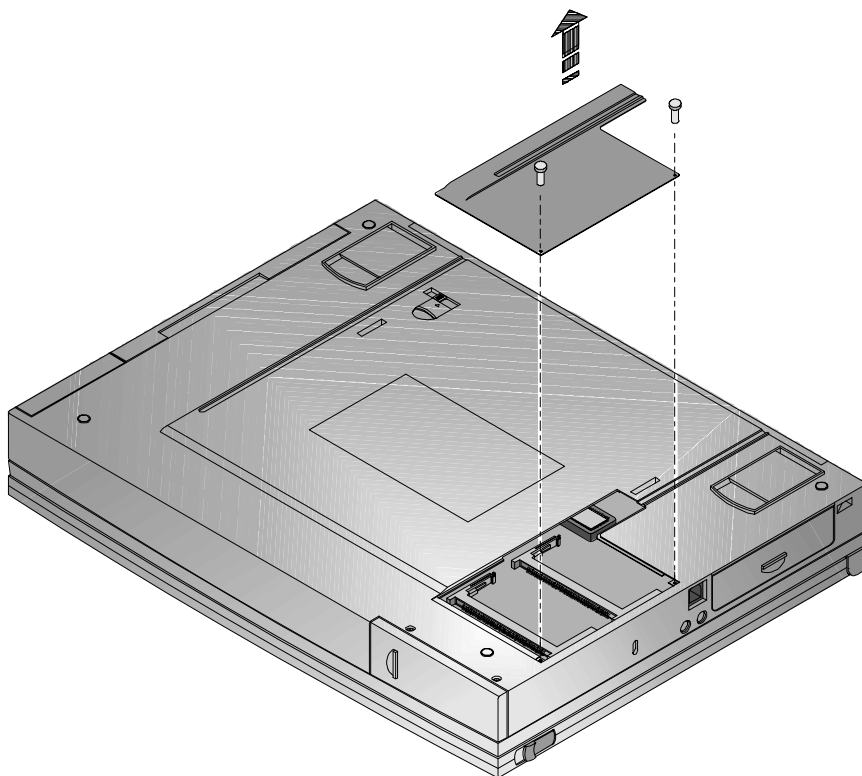
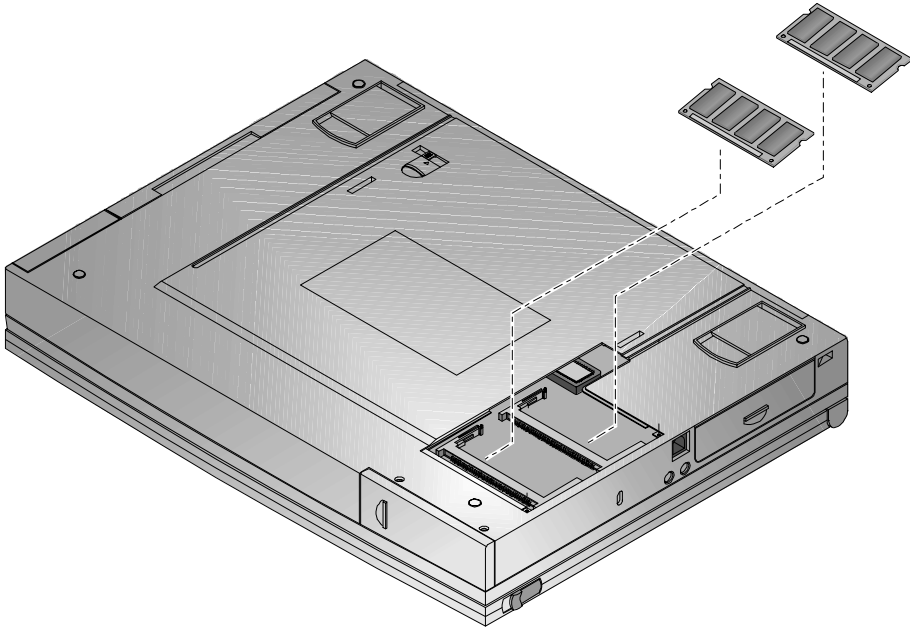

Figure 6-1: Removing MemoriDoor
Figure 6-2: Inserting DIMMs
You may find it helpful to refer to figure 6-1 and figure 6-2 while reading the following directions.
2. The memory door is located on the underside of the notebook. It is secured to the notebook by two Philips head screws. Remove the screws and the memory door to reveal the DIMM slots. (Figure 6-1)
3. Insert the DIMM into the memory slot at a 45° angle. (Figure 6-2)